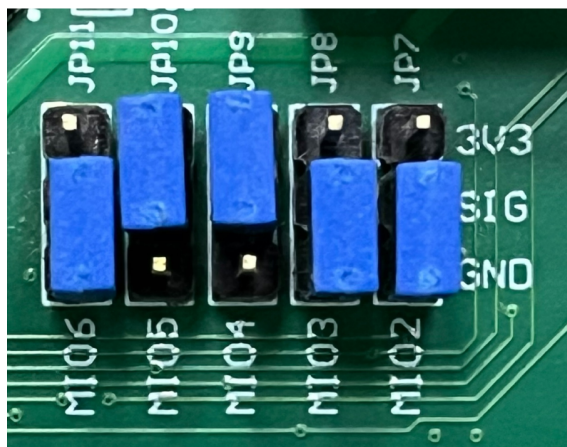

Figure 2. ZedBoard™ Boot Configuration Jumpers
2. Ensure the ZedBoard™ boot configuration jumpers are set to use the Micro-SD card as shown in Figure 2. To avoid potential issues, ensure that the Zedboard™ VADJ SELECT = 2.5V, as shown in Figure 3.